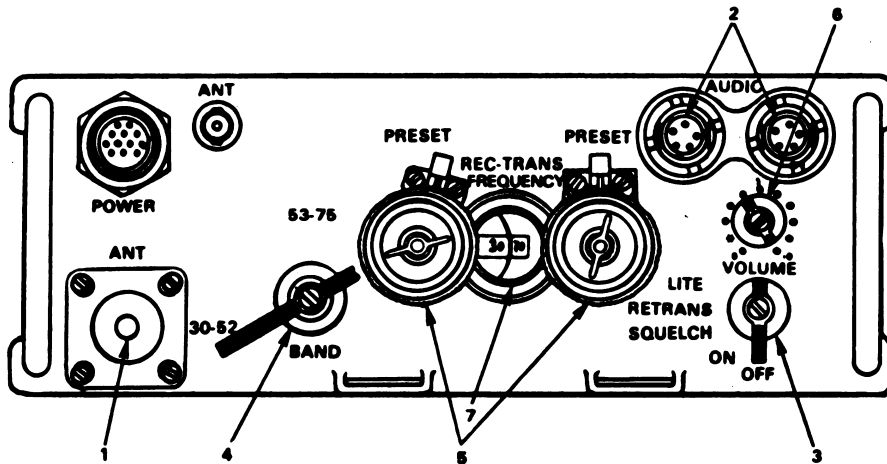

Figure 3
3. To Operate Set (fig. 3) (TM 11-5820-667-12, chap 3, pages 3-1 thru 3-7).
- a. The numbers of steps 1 through 6 below relate to the numbers in figure 3.
- (1) Install the antenna required for the type of operation in the antenna mount.
- (2) Attach handset H-189/GR to either audio connector.
- (3) Turn the function switch to ON.
- (4) Turn the BAND switch to the desired operating frequency band.
- (5) Turn the MC tuning and KC tuning control knobs until desired frequency appears in the channel dial (7).
- (6) Turn the VOLUME control to 4.
- (7) Press the handset H-189/GR push-to-talk switch and speak into handset; release the push-to-talk switch to listen.
- (8) Adjust the VOLUME control (6) for a desirable sound level.
- (9) To reduce the rushing noise when no signal is being received, turn switch (3) to SQUELCH.